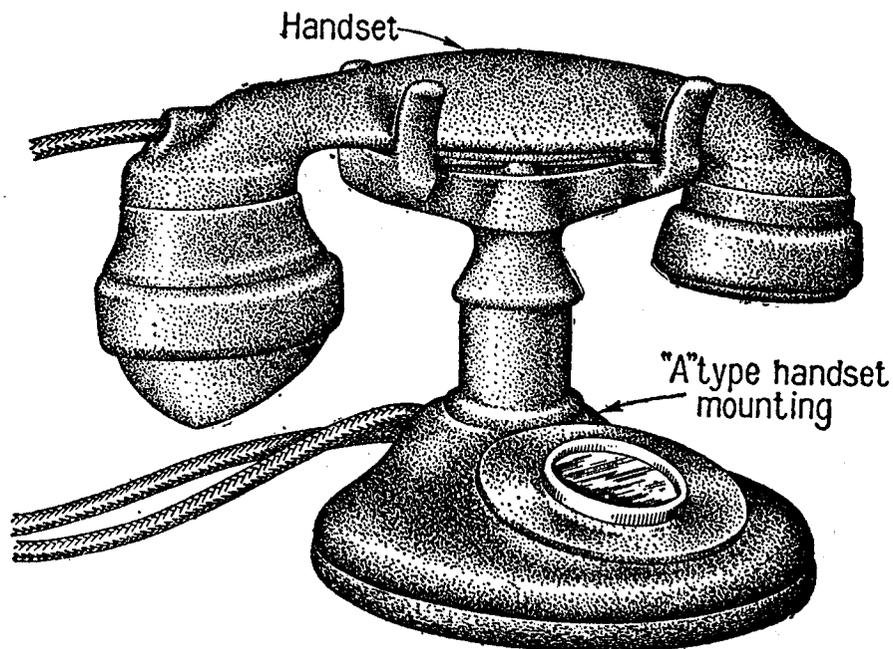

Fig. 2
**A1 HANDSET MOUNTING (See Fig. 2,